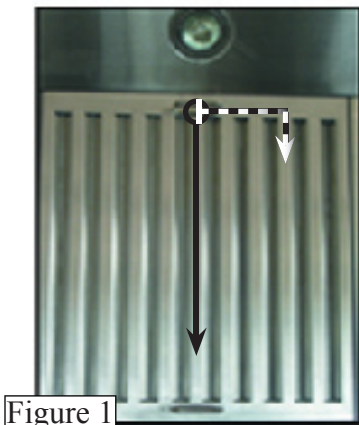

Figure 1
7. Disconnect power cord, remove the stainless steel filters by pulling down toward the direction of solid arrow while holding both of the metal handles, gently pull the stainless steel filters toward the direction of dashed arrow as shown in Figure 1.